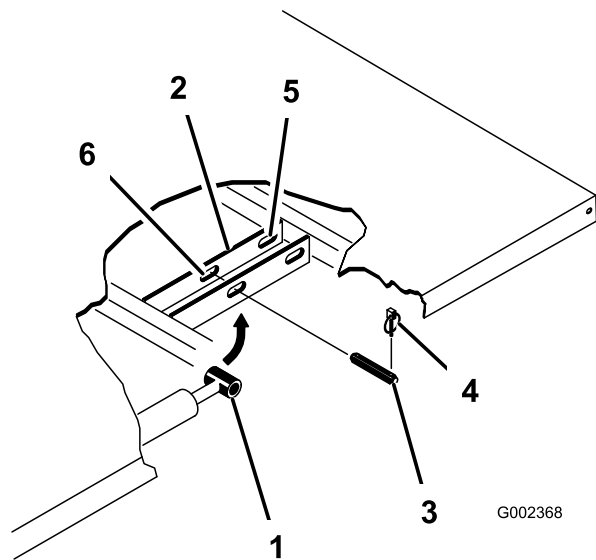

Figure 23
3. Remove the lynch pins from the outer ends of the cylinder rod clevis pins (Figure 23).
4. Remove the clevis pins securing the cylinder rod ends to the bed-mounting plates by pushing the pins toward the inside (Figure 23).
5. Remove the lynch pins and clevis pins securing the pivot brackets to the frame channels (Figure 23).